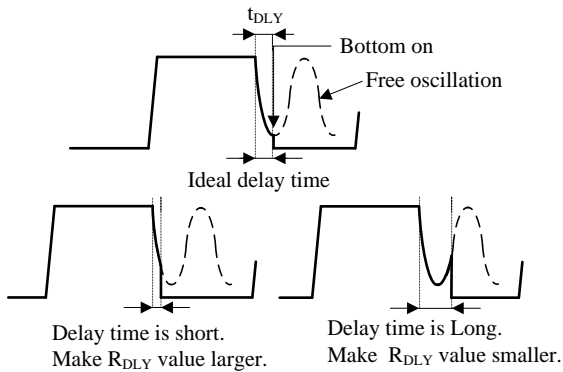

Figure 8-11 Turn-on timing of VDS
Figure 8-10 shows relationship between  $R_{DLY}$  value and  $t_{DLY}$  value (IC design). As shown in Figure 8-11, the value of  $R_{DLY}$  adjusts the turn-on timing to the bottom
The range of  $R_{DLY}$  is 15 kΩ to 56 kΩ. The ideal delay time shown in figure 8-11 is given by Equation (3), and it depends on  $L_P$  and  $C_V$ .